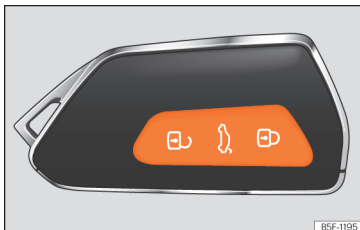

Fig. 73 Remote control key: keys.
- Lock: press the  >>> Fig. 73 button.